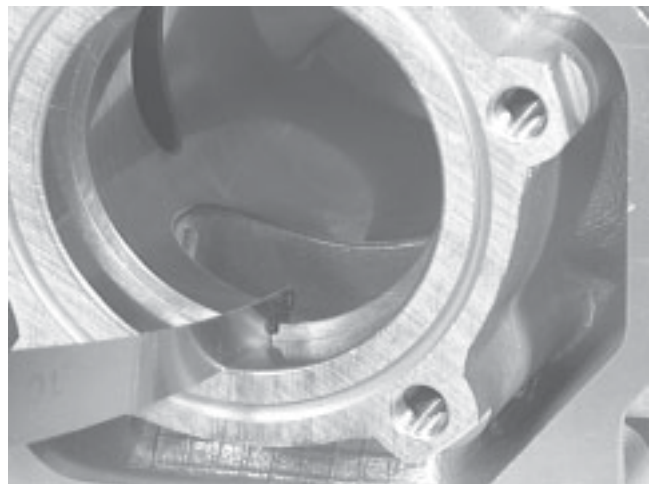

Fig. 50
- ⇒ Remove the piston ring and insert a feeler gauge into the cylinder parallel to the head sealing surface, as shown in Fig. 50.